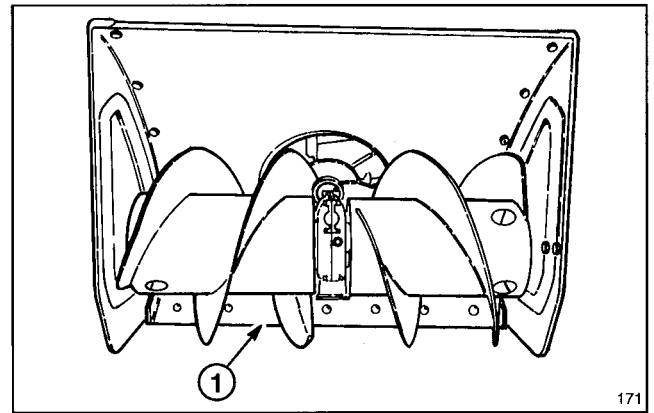

Figure 7
2. Move the snowthrower onto a flat surface and check if scraper (Fig. 7) is parallel to the ground. If not, adjust scraper; refer to Adjusting Scraper, page 14.